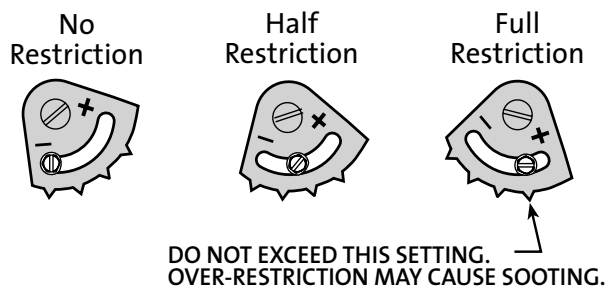
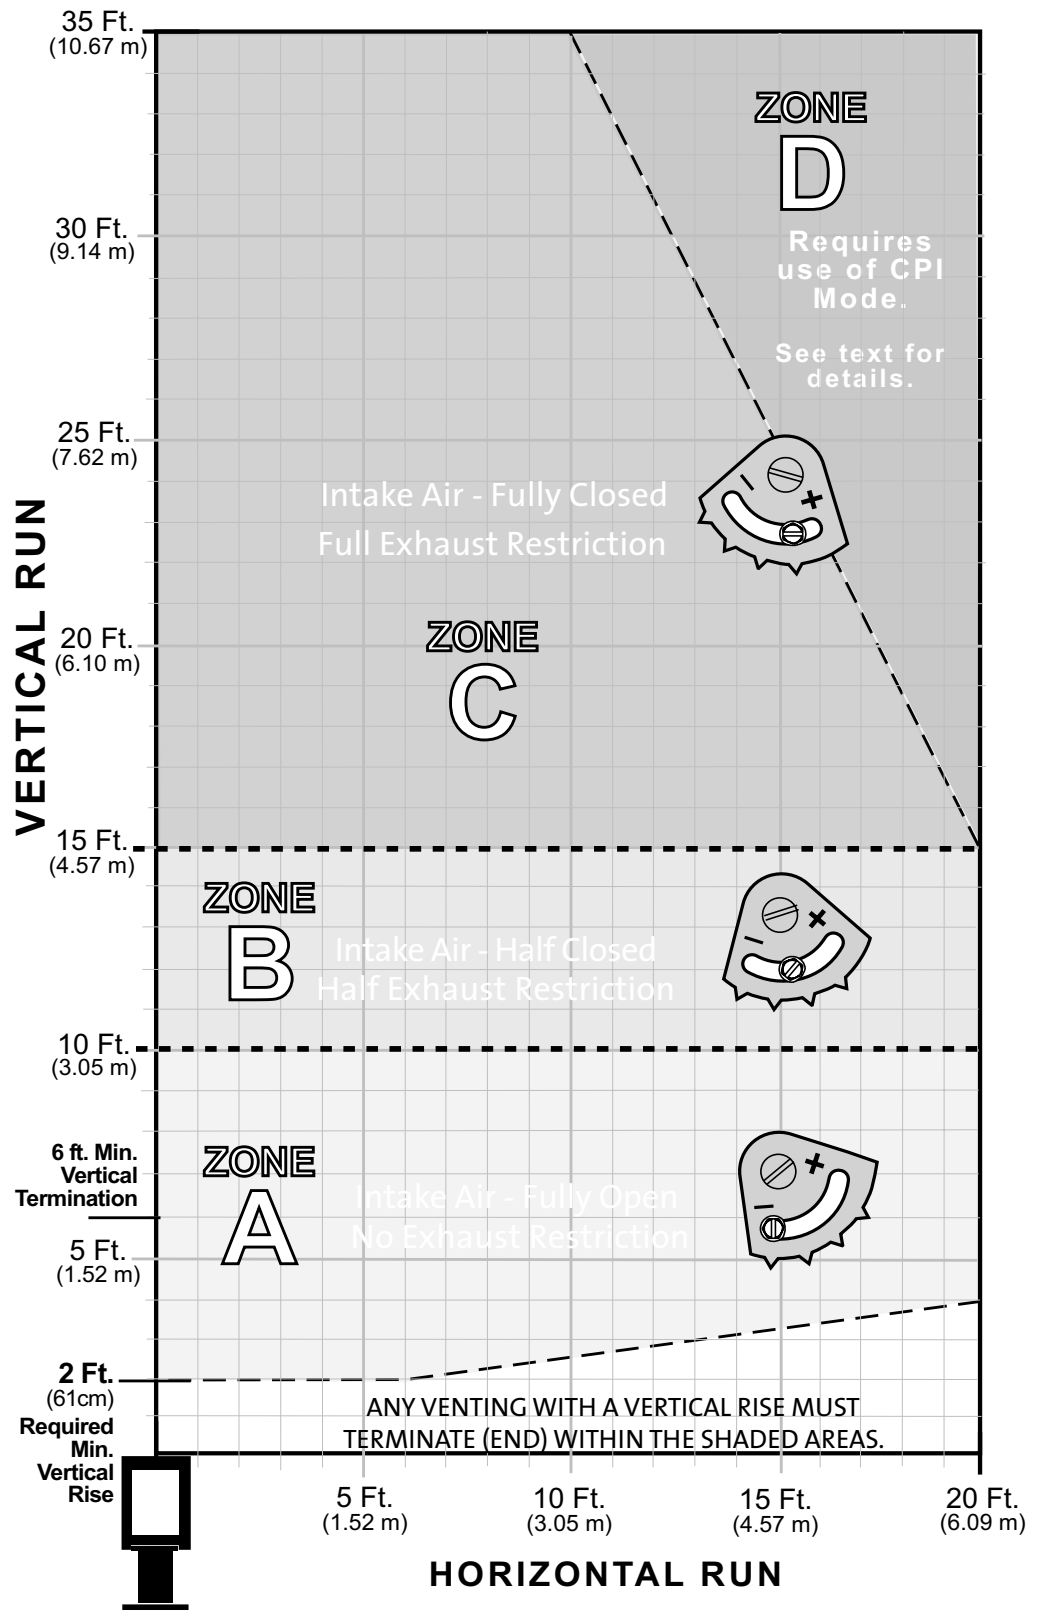

Figure 15. Exhaust Restrictor settings
Figure 17. Vent Termination Diagram.
1. Use the restrictor zone guidelines in the Vent Window Diagram, fig. 17. In masonry chimney, a fireclay liner or listed steel liner, must be contained within the entire length of the chimney.
Use the Vent Termination Diagram, fig. 17, to determine which zone your vent termination falls within and make the appropriate exhaust and air intake setting adjustments. Use these settings as general guidelines to start from. The final settings will ultimately be determined by the individual characteristics of your particular installation. There are no hard and fast rules.
2. Loosen the locking screw and turn the restrictor pivot plate to the appropriate indicator point as specified in the vent window diagram, figure 17. After the burner has been operating for 15 minutes, make any further adjustment in 1/8” increments until the desired flame picture is achieved. **Do not exceed the fully closed setting as shown in fig. 15.** Operate the burner for 10-15 minutes between additional adjustments.